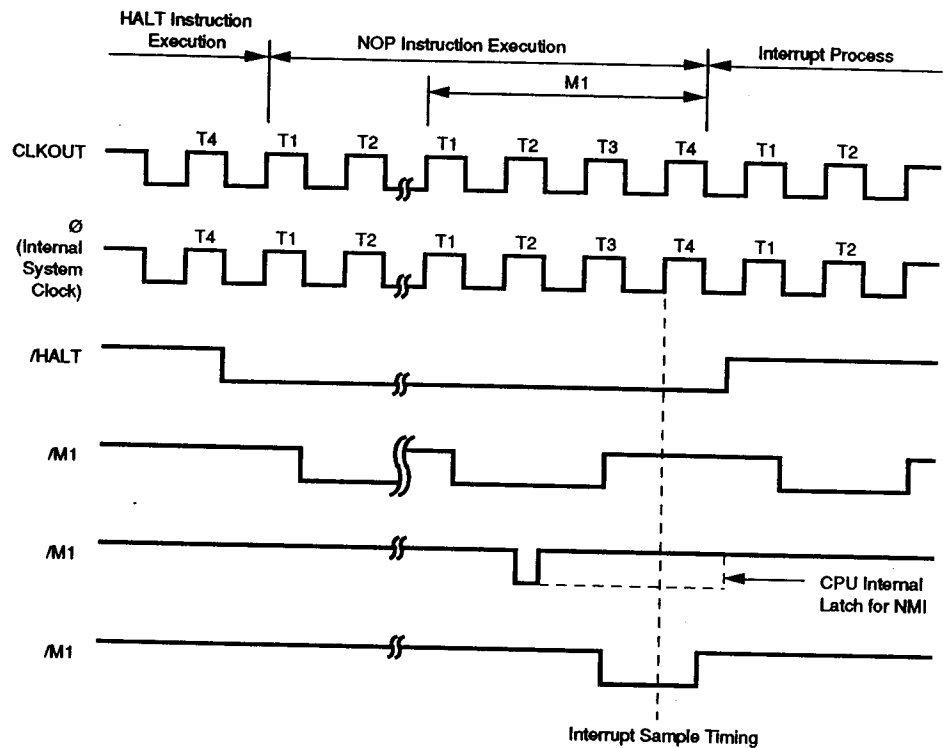

**Figure 35. Halt Release Operation Timing
**RUN Mode (HALTM=11).** The halt release operation is enabled by interrupt request in RUN Mode (Figure 35).